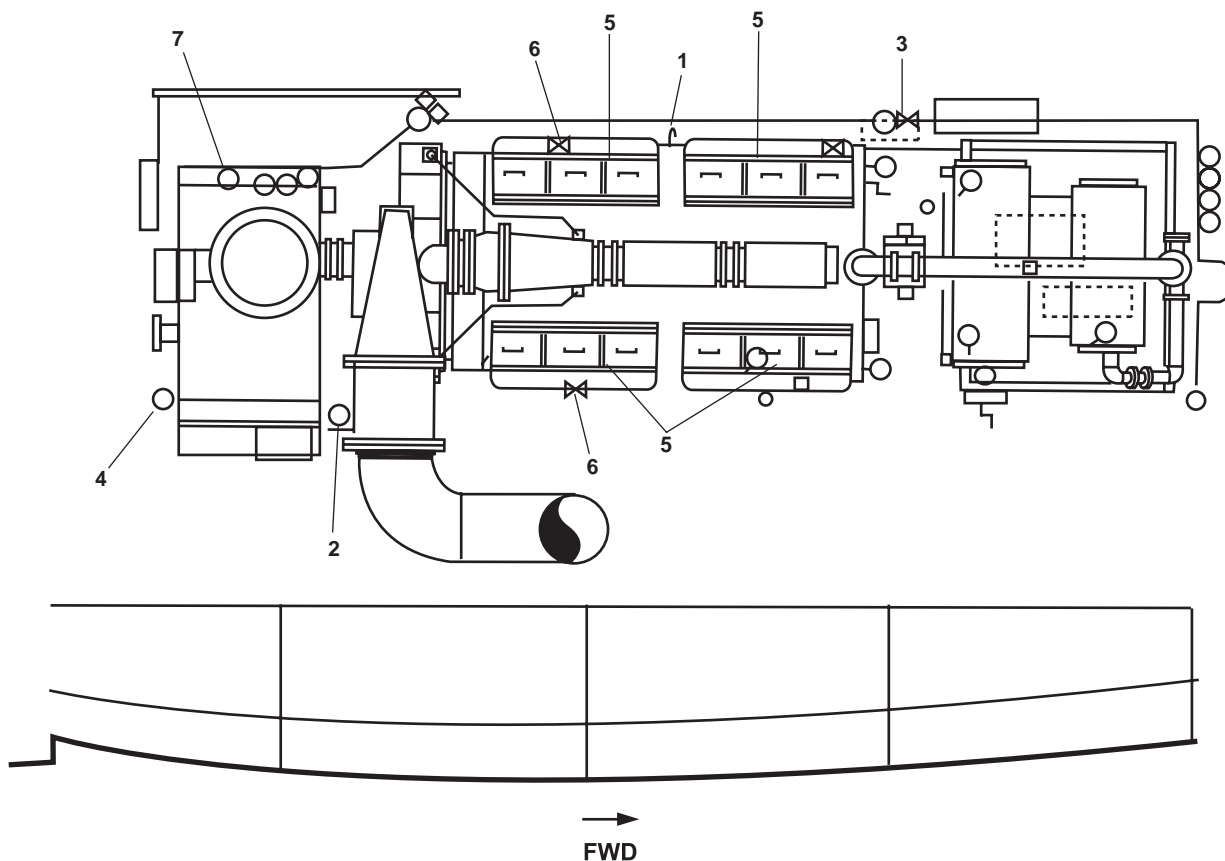

Figure 2. Starboard Main Engine and Reduction Gear
3. Check that the starboard main engine oil is at the normal level on the dipstick (figure 2, item 1). If the engine oil level is low, add oil until the proper level is achieved. Refer to TM 55-1925-208-24 or maintenance supervisor for oil specification.
4. Check that the starboard reduction gear oil is at the normal level on the dipstick (figure 2, item 2). If the reduction oil is level low, add oil until the proper level is achieved. Refer to TM 55-1925-223-24&P or maintenance supervisor for oil specification.
7. OPEN valve Lo-47, C.O.V. PRELUBE PMP. DISCH. (figure 2, item 3).